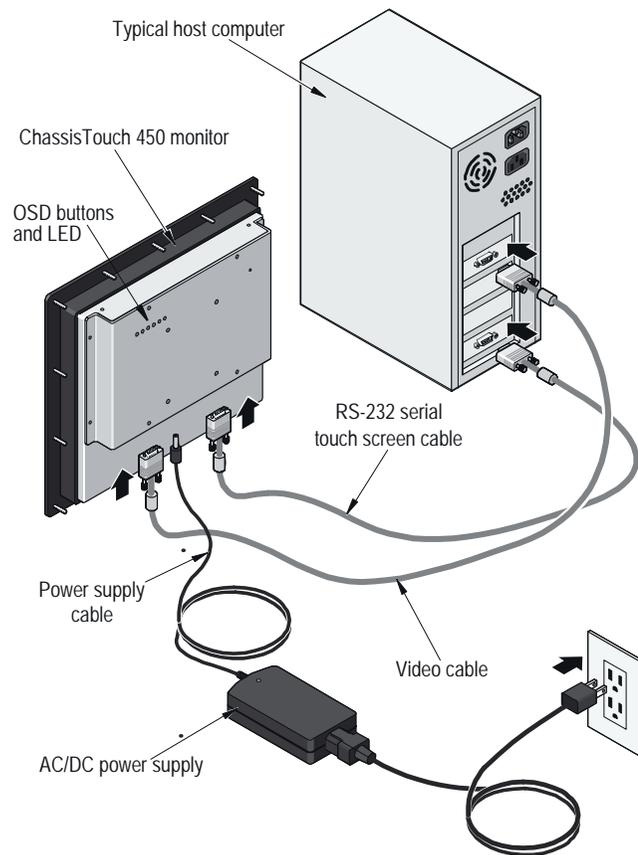

Figure 2: Connecting communications and power cables
- b) Connect one end of the video cable to the video connector on the ChassisTouch™ 450 monitor and then connect the other end to the video card in the host computer (Figure 2).
- e) Connect the power cable to the power source. After connecting power, the monitor will automatically power on and the LED on the back of the monitor will be illuminated (for location of LED, see Figure 2 on page 9). If the LED is not illuminated try pressing the Power button located on the back of the monitor. If the LED still is not illuminated, check that the power supply is functioning properly.